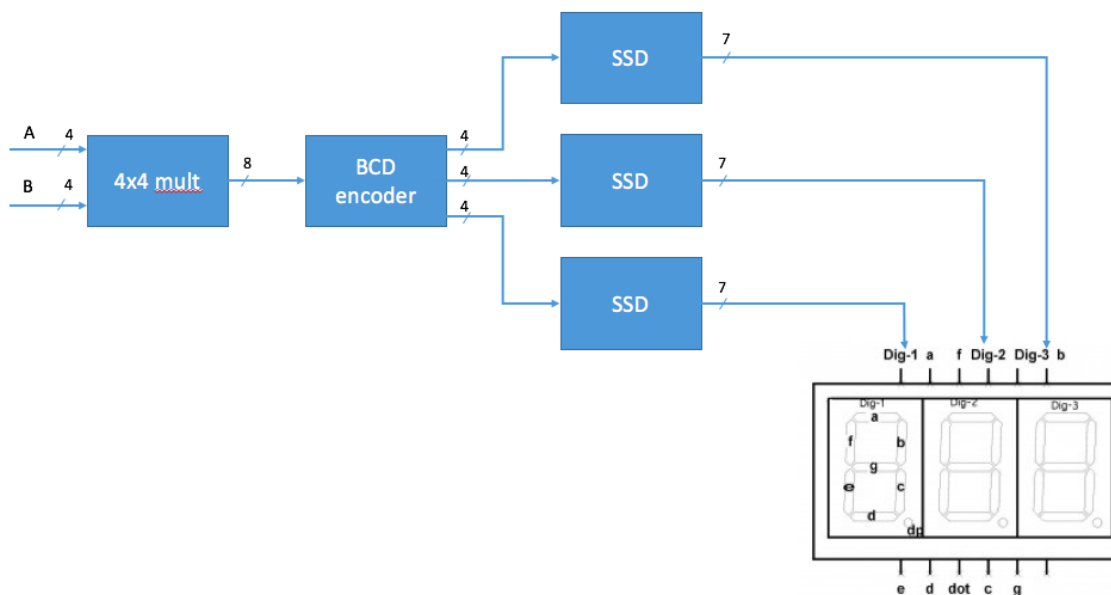

Figure 1: Block diagram for the integrated multiplier
1. Verilog RTL code for the different blocks of Figure 1.
2. Write testbench (TB) that verifies the different RTL blocks